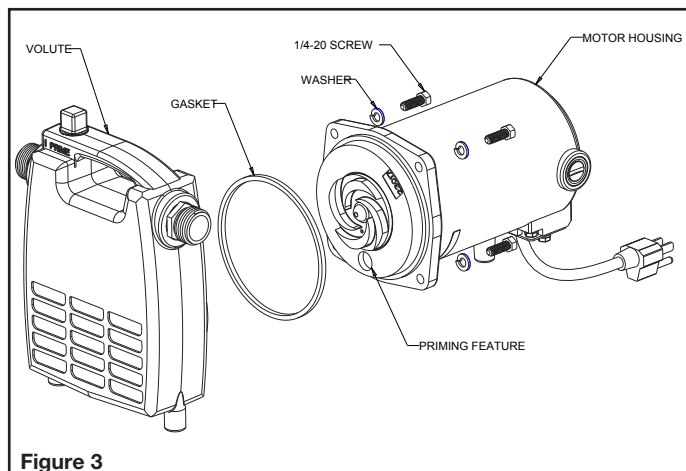

Figure 3
3. Remove brush holder caps and brushes (make note of which side of the pump the brush was in also the orientation of the brush as you will want to put them back the same way they came out). Ref fig.3. Remove the (4) 1/4-20 screws and lock washers holding the volute to the motor housing. Ref fig.3
12. Make sure the thrust washer is in the bearing pocket in the back of the motor housing and guide the rotor assembly back into the motor housing. Make sure the priming feature on the back head is on the bottom of the pump, the pump won't prime properly if this isn't in the correct location. Ref. fig. 3